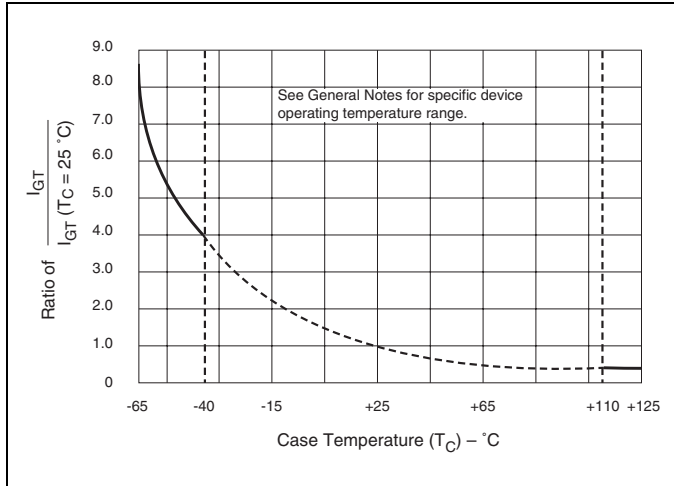

Figure E5.10 Normalized DC Gate-Trigger Current versus Case Temperature
- (2) See Figure E5.10 for IGT versus TC or TL.